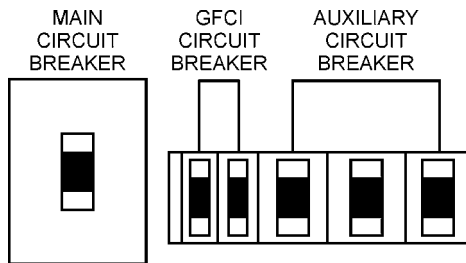

Figure 39. Main, Aux. and GFCI Circuit Breakers (OFF)
1. Place the **main, G.F.C.I., and aux.** circuit breakers (Figure 39) in the **OFF** position prior to starting the engine.